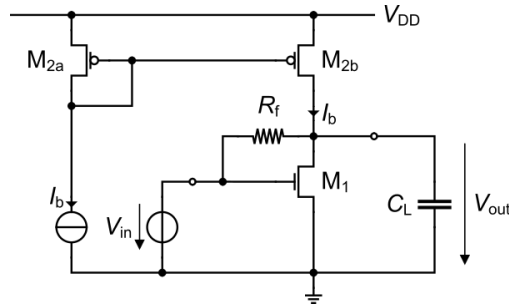

Figure 2.1: Schematic of an elementary gain stage with resistive feedback.
Figure 2.1 shows the schematic of another simple common-source (CS) gain-stage with a feedback resistance R_F . We first will analyze the small-signal operation of this circuit and then will design it for the specifications given in Table 2.1 for a generic 180nm bulk CMOS process. Finally we want to validate the design with circuit simulation.
- Draw the small-signal schematic of the circuit of Figure 2.1 including all the noise sources.